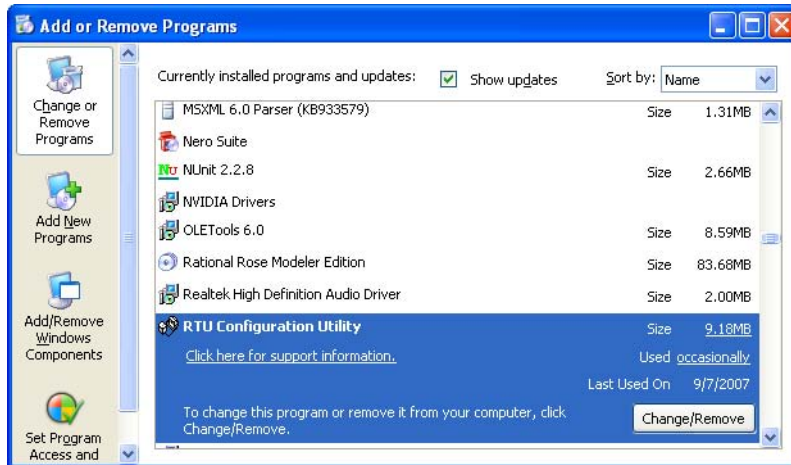

Figure 2-3. Selecting an Application to Remove
2. As shown in Figure 2-3, scroll down the list of applications and select the RTU CONFIGURATION UTILITY by clicking on it.